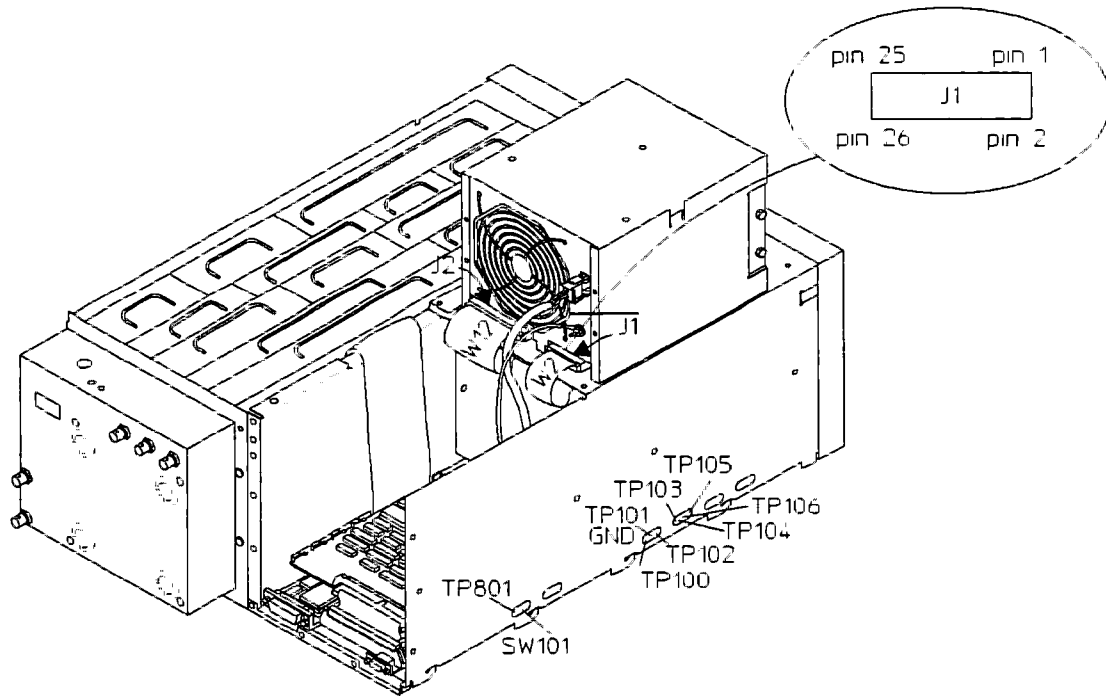

Figure 4-2. Initial Verification Test Locations
- Set the power switch to STANDBY (0). Disconnect the power supply test board. Reconnect the CPU power cable (W2) to J1 on the CPU assembly and the motherboard power cable (W12) to the Power Supply assembly. Replace the Memory assembly.
- Set the power switch to ON (1). Check the voltages in table 4-3 (see figure 4-2).
- b. Set the power switch to ON (I). With a logic probe, check J1 pin 13 (PVALID) on the Power Supply assembly for a TTL logic high (see figure 4-2). If the signal is incorrect, the Power Supply assembly is faulty.
- d. Set the power switch to ON (I). While monitoring TP100, momentarily connect TP801 to chassis ground. If the logic level at TP100 did not go from high to low, the CPU assembly is probably faulty.